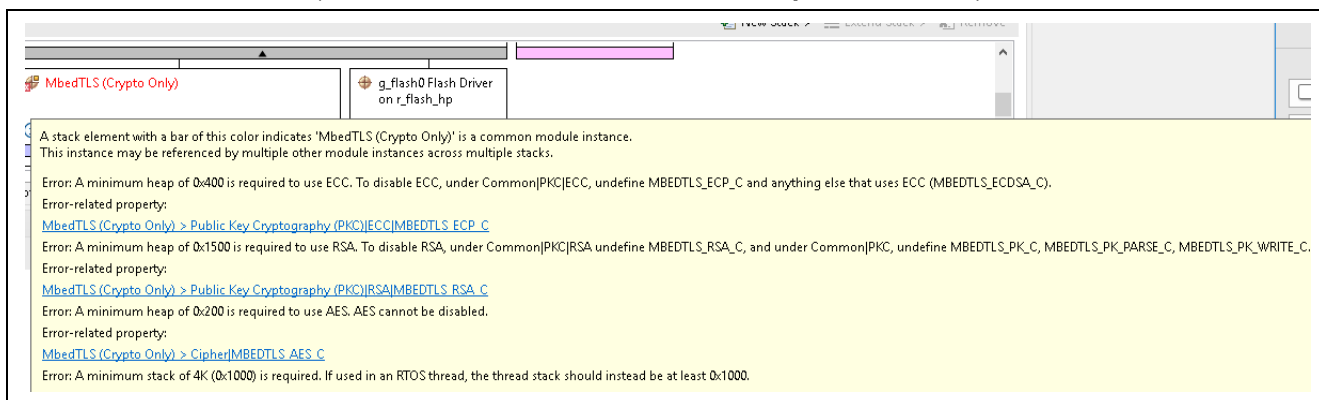

Figure 56. Dependencies of Mbed TLS (Crypto Only) Stack
3. Hover the cursor over MbedTLS (Crypto Only) stack. You will see warnings as shown in Figure 56.